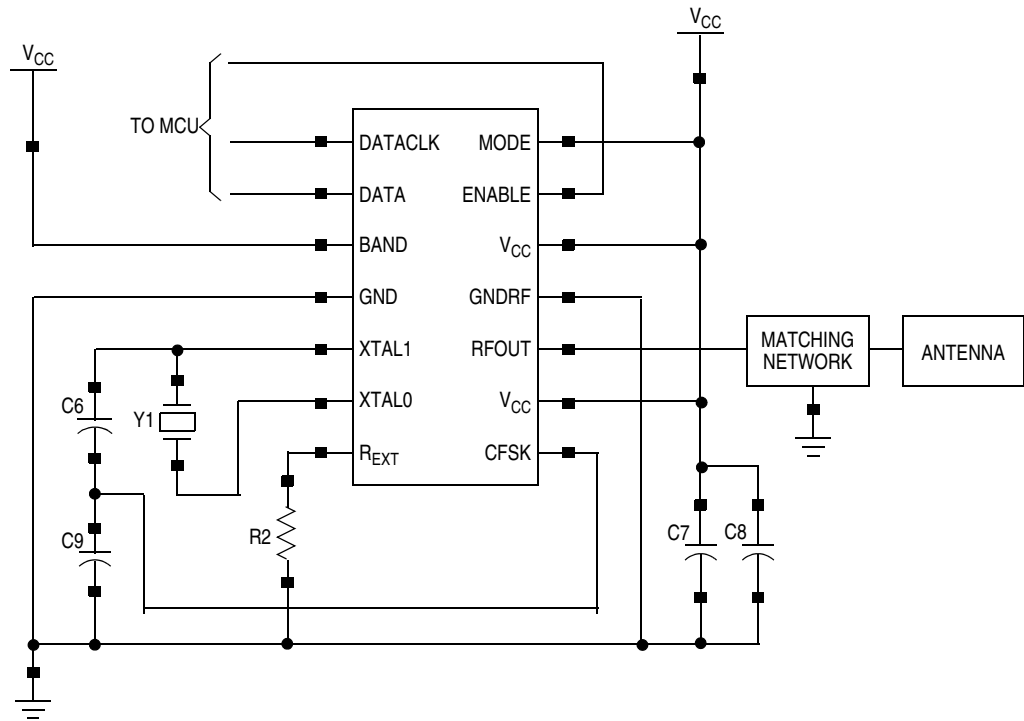

Figure 12-6. Application Schematic in FSK Modulation, 315-MHz and 434-MHz Frequency Bands
In case of Figure 12-6, where the two capacitors C6 and C9 are in series:
**Figure 12-5** and **Figure 12-6** show application schematics in OOK and FSK modulation for the 315-MHz and 434-MHz frequency bands. For 868-MHz band application, the input pin BAND must be wired to GND. See component description in **Table 12-4** and **Table 12-5**.